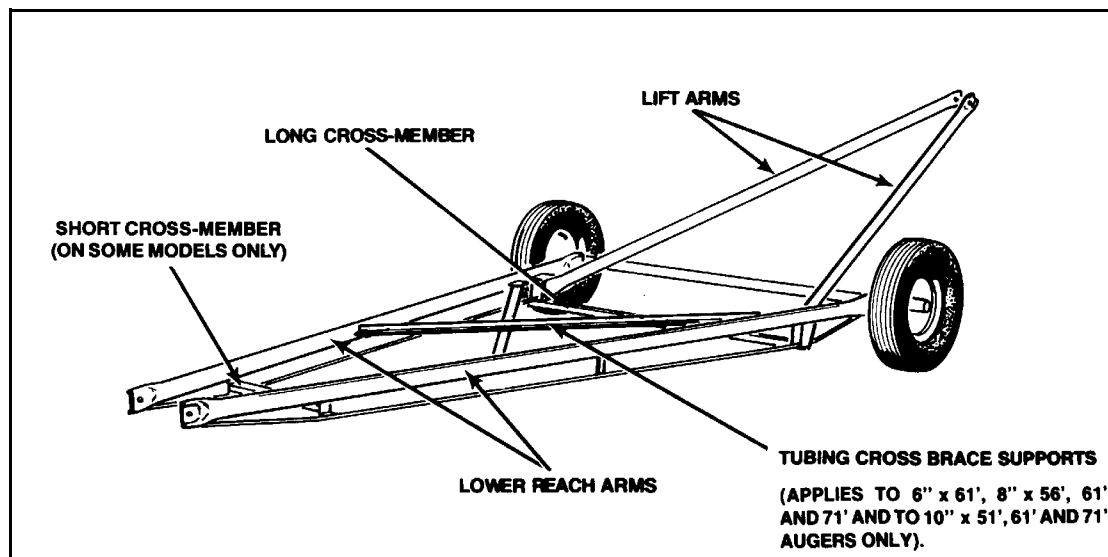

Figure 3.8
See Figure 3.8.
2. Attach long crossmember to bottom of undercarriage brackets (Figure 3.8) with two 7/16" x 1" bolts and locknuts.